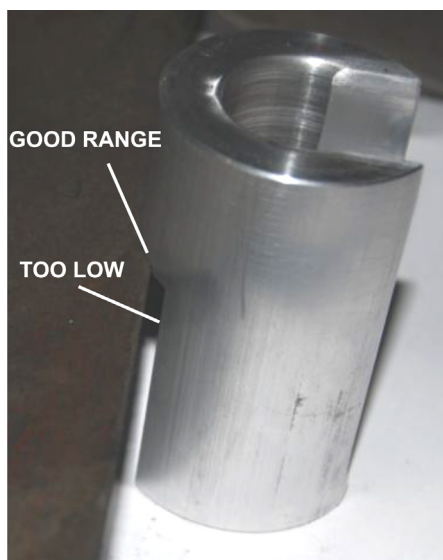

Figure 43. Measuring Leading Edge Height
2. Choose a blade on both LH and RH Rotor. Using Gauge P/N 32044, measure height of raised leading edge ensuring it is $2.00" \pm .060"$ (Figure 43). If the blade slides under the first step but not the next, it is within limits.